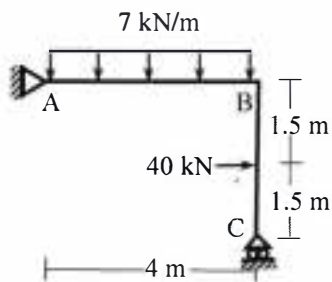

Fig.3
3. Use Method of Virtual Work to determine the horizontal deflection of joint C of the frame shown in Fig.3. [Given: $E=200$ GPa, $I = 100 \times 10^6 \text{ mm}^4$]. [10]